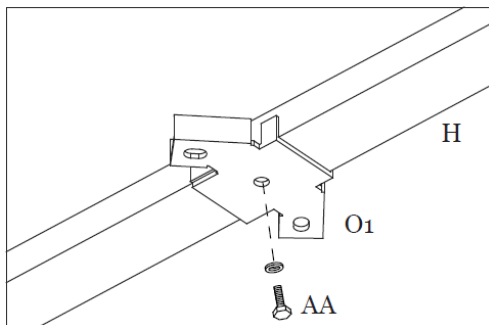

Figure 12-1
Step 12A: Attach the Main Roof Connectors (O1) to the Main Roof Corner Supports (H) using Bolts (AA). See Figure 12-1.